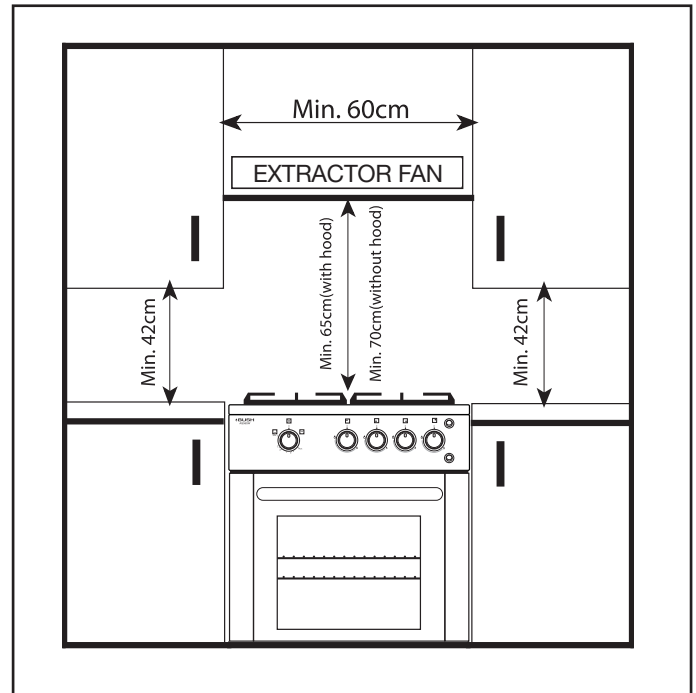

Figure 1
3. Surrounding furniture, cabinets and the extractor fan should be positioned in accordance with the diagram shown in figure 1.